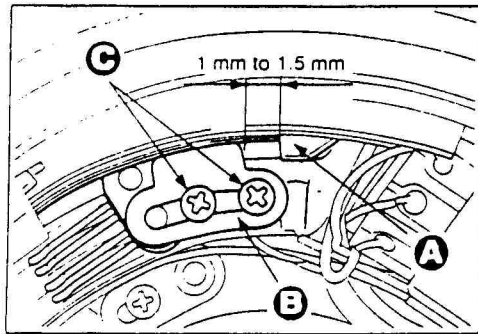

Fig. 1
The amount of the shutter charge over-set is that the clearance between the claw (A) of the manual set lever and the switch brush arm (B) shall be 1 mm to 1.5 mm. (See Fig. 1.)
2. Loosen the screw (C), slide the switch brush arm (B), and make a temporary adjustment. (See Fig. 1.)